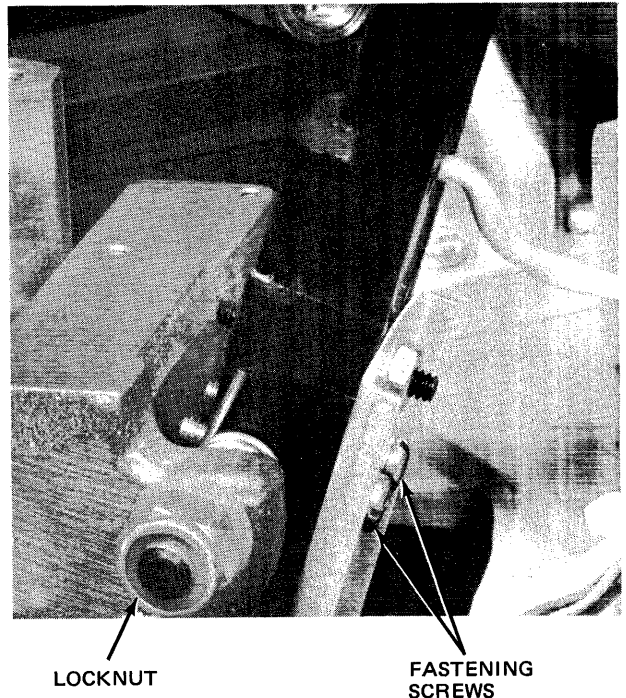

Figure 5-19. Sector/Index Transducer Replacement
- b. Remove two screws and locknut holding tilt bracket to transducer (see Figure 5-19).